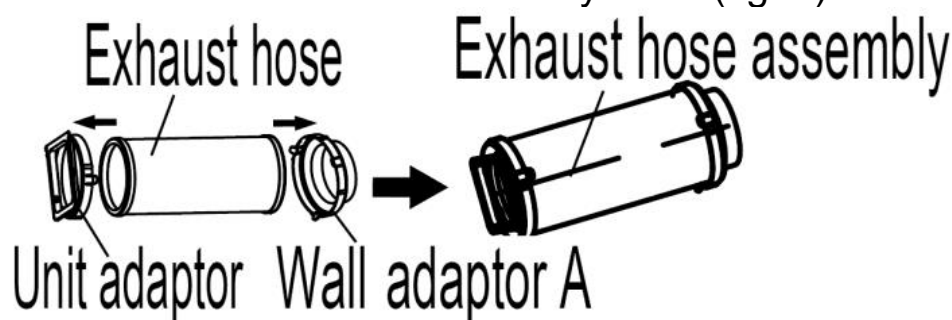

Fig. 1
1. Push fit the unit adaptor onto one end of the exhaust hose. A click will be heard when correctly fitted (fig. 1).
2. Push fit part A of the wall adaptor onto the remaining end of the exhaust hose. A click will be heard when correctly fitted (fig. 1).